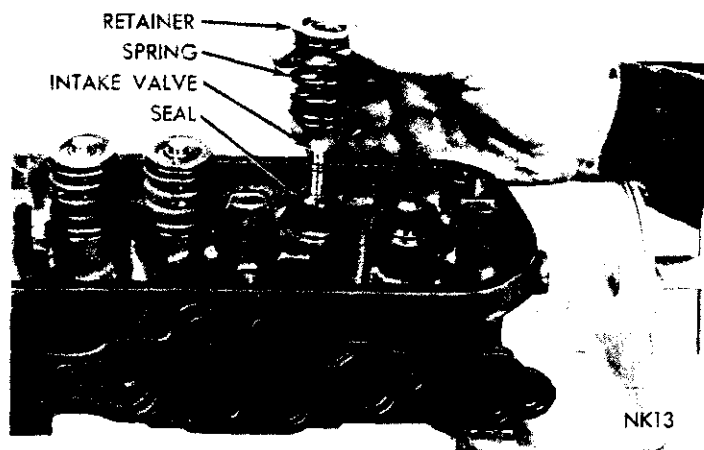

Fig. 18—Installing Valve, Cup Seals, Spring and Retainer
(3) Install new cup seals on all valve stems and over valve guides (Fig. 18). Install valve springs and retainers.
(4) Compress valve springs with Tool C-3422A, install locks and release tool. If valves and/or seats are reground, measure the installed height of springs. Make sure measurement is taken from bottom of spring seat in cylinder head to the bottom surface of spring retainer (if spacers are installed, measure from the top of spacer). If height is greater than 1-11/16 inches, install a 1/16 inch spacer in head counterbore to bring spring height back to normal 1-5/8 inches to 1-11/16 inches.